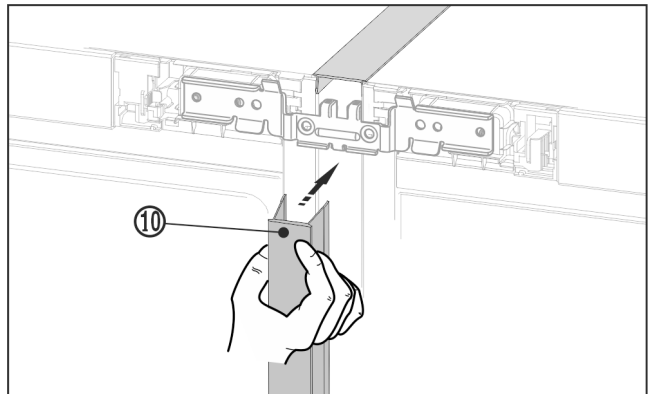

Fig. 28
- ▶ On the front, press the long cover strip Fig. 28 (10) into the vertical gap. Ensure that the strip rests on the connecting plate.